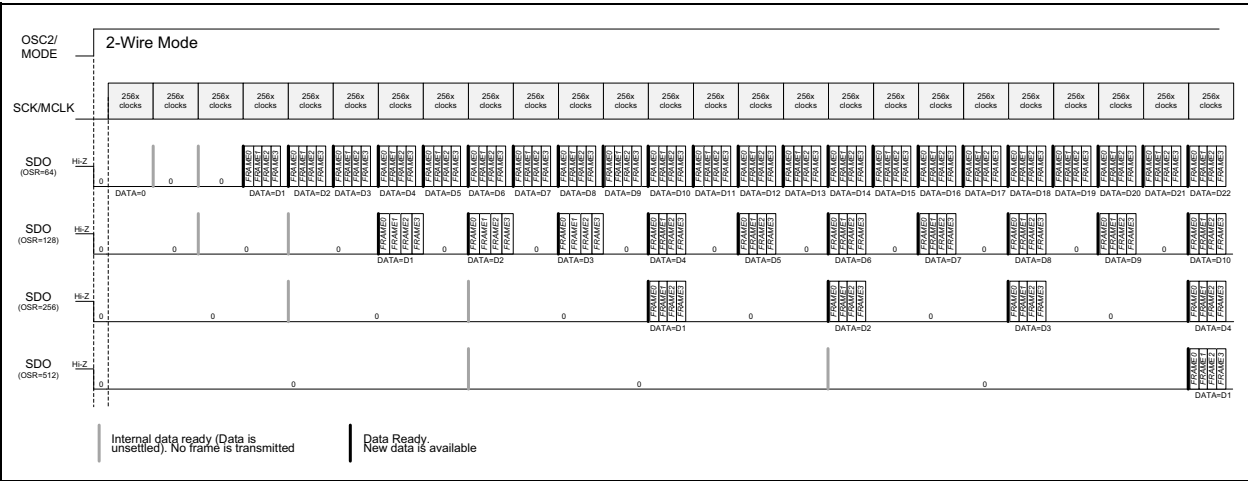

FIGURE 7-3: MCP3918 2-Wire Communication Protocol.
3), and retrieved on a single SDO line after the digital isolators, provided that the isolators have a chip enable or a multiplexing feature. The frame counter can then be used to retrieve the information about which MCP3918 part is actually being read. After the four frames have been transmitted, the SDO pin idles logic low to reduce digital isolator power consumption until the next data is available. Figure 7-3 displays the timing diagram for the 2-Wire Interface mode, showing all OSR possibilities. Note that the first set of frames is sent only when the first data is ready, which means that the settling time of the sinc filter will be elapsed before sending the first set of frames, as represented in Figure 7-3.